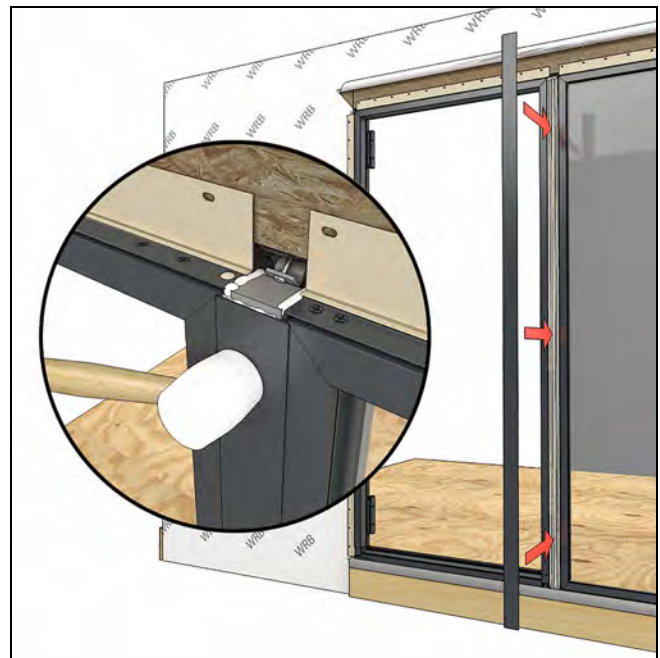

Figure 250
27. Install the exterior mull cap. Seat in place with a rubber mallet. See Figure 250.